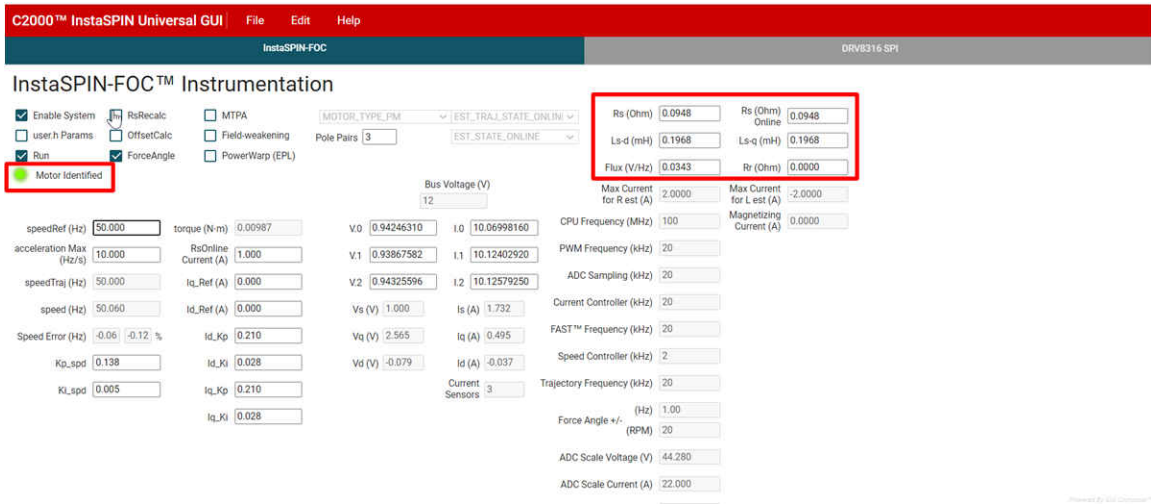

Figure 6-3. Motor Identification Using the DRV8316xEVM InstaSPIN™ GUI
5. Once the motor identification process is complete, the “Motor Identified” indicator will light up, the “Run” box will be automatically unchecked, and the values Rs, Rs Online, Ls-d, Ls-q, Flux, and Rr will update for that motor as shown in Figure 6-3. These values will be automatically used for sensorless Field-oriented control.